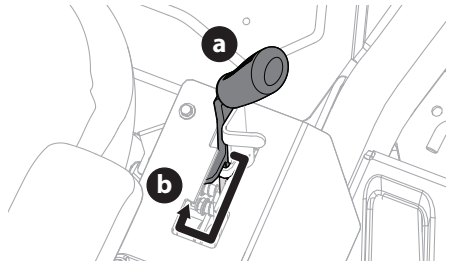

Figure 26
2. Engage the parking brake by placing drive control pedals in neutral, pushing the park brake lever to the right out of the "OFF" position (a) and pulling the lever back until it locks into the "ON" position (b) (Figure 26).